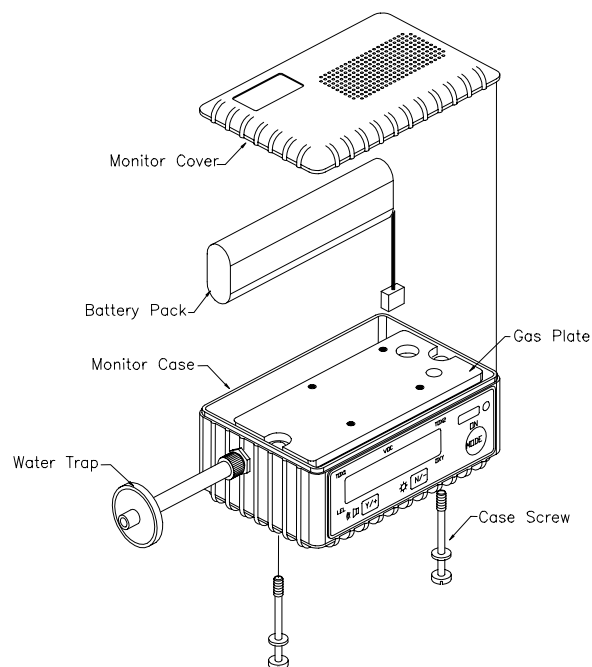

Figure 7-1. Main Components of the MultiRAE IR
As shown in Figure 7-1, the major maintenance items of MultiRAE IR are:
2. Referring to Figure 7-1, open the monitor cover by unscrewing the two captured screws from the bottom of the monitor case. **Disconnect the battery pack.**
2. Referring to Figure 7-1, open the monitor cover by unscrewing the two case screws from the bottom of the monitor case. **Disconnect the battery pack.**